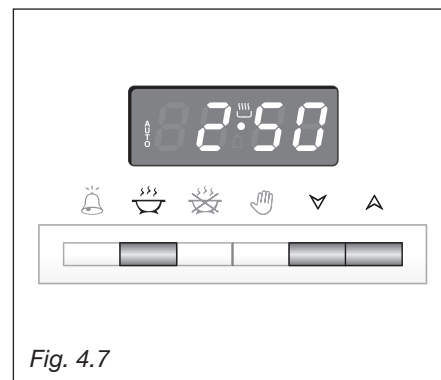

Fig. 4.7
1. Set the length of the cooking time by pushing the  button and the  button to advance, or  to go backwards if you have passed the desired time (Fig. 4.7).